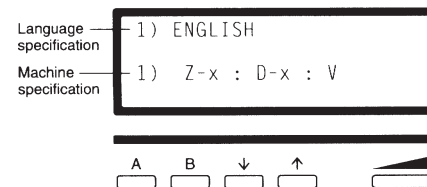

Figure 1
3. Turn on the power supply while holding down both the ↑ and A keys on the display panel to enter the Test Mode. The LCD display will appear as shown in Figure 1.